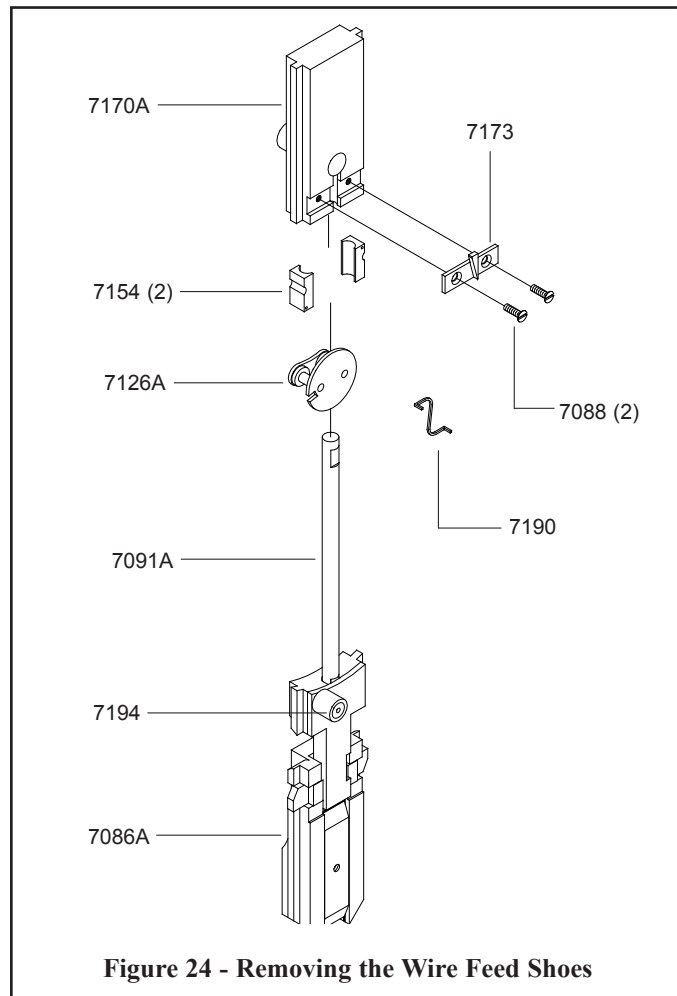

Figure 24 - Removing the Wire Feed Shoes
### Removing and Replacing the Wire Feed Shoes (Figure 24)
Install two (2) Wire Feed Shoes into the Feed Grip so that the small holes on the one end of each piece are facing up and opposite from each other, when looking at the back of the Feed Grip. In the tunnel created by the slots on the back of each Wire Feed Shoe, try to insert the Driver Bar Assembly. (Make sure the side of the Driver Bar Assembly with the Swivel Operating Lever Cam Roll (7194) is on the same side as the notch in the Feed Grip. Refer to **Figure 24** for the correct orientation as this is critical. If this proves unsuccessful, file the small slot on the rear of both the Wire Feed Shoes with a 5/32" file so that the Driver Bar Assembly can be twisted between them while they are in place in the Feed Grip. The fit should be tight but still able to be adjusted by hand. A fit that is too tight will cause the brass Shoes to wear prematurely and a loose fit will cause inconsistent draw or cause the wire to be pulled from the Grip. When the fit is accurate, insert the Wire Feed Shoe Spring and twist it so the ends of the Spring are facing towards the small holes in the ends of the Wire Feed Shoes. Insert one end of the Wire Feed Shoe Spring into the hole in one of the Wire Feed Shoes. Compress the Spring to get the other end into the hole in the other Shoe.